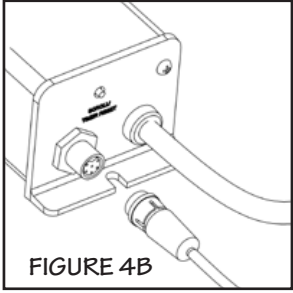

FIGURE 4B
1. Before removing the sensor assembly, follow the steps as outlined in the "Quartz Sleeve Replacement And/Or Cleaning" section. The quartz sleeve should be cleaned at the same time as the UV sensor. Disconnect the UV sensor from the Cobalt "Plus" (BA-ICE-CM) controller by disconnecting the sensor cable, turning the collar counter-clockwise (Figure 4B). To remove the sensor, grasp the body of the sensor and rotate counter-clockwise (Figure 4C) until the sensor is free of the threaded sensor port.
3. Ensure sensor lens is rinsed free of cleaning solution. Carefully reassemble the sensor assembly with o-ring (Figure 4E) into the sensor boss. Screw the sensor into the boss and tighten to achieve a water-tight seal. DO NOT OVERTIGHTEN. Attach the sensor cable to the Controller and return to service (Figure 4B).